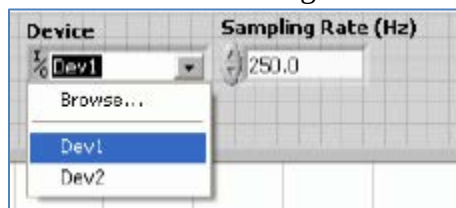

Figure 7.5: Selecting correct device
2. Ensure the correct Device is chosen as shown in figure 7.5